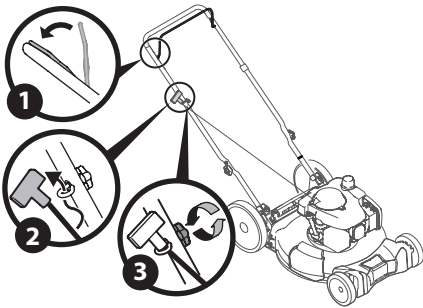

Figure 4
**NOTE:** The rope guide is attached to the right side of the upper handle. Loosen the knob securing the rope guide (Figure 4).